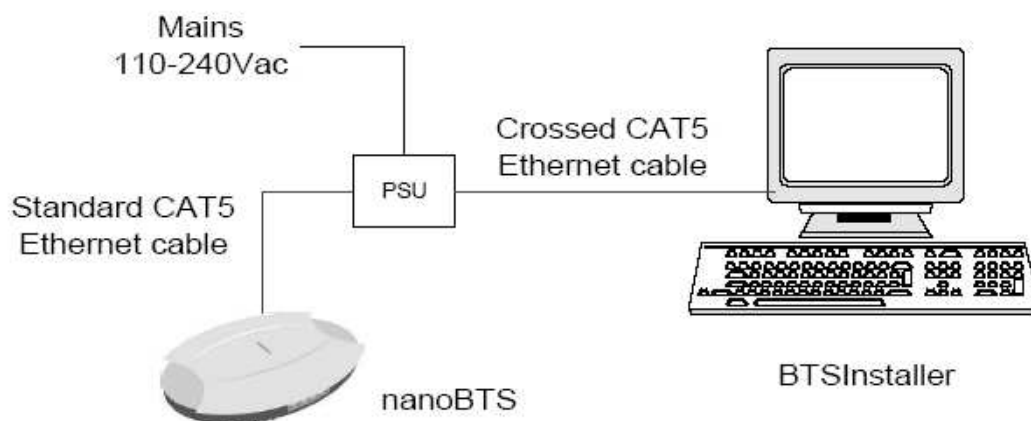

Figure 5 - Local BTS Connection
- Connect the nanoBTS up as shown in Figure 5 nanoBTS Connections and power on the nanoBTS